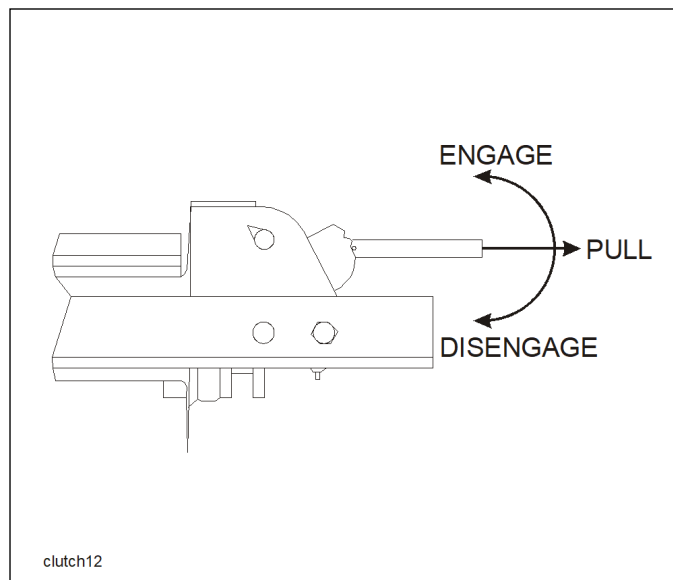

Figure 3-8: 12,000# Winch Manual Clutch
1. The **WINCH CLUTCH HANDLE** (See **Figures 3-8 and 3-9**) is located on the right or curb-side end of the winch assembly.